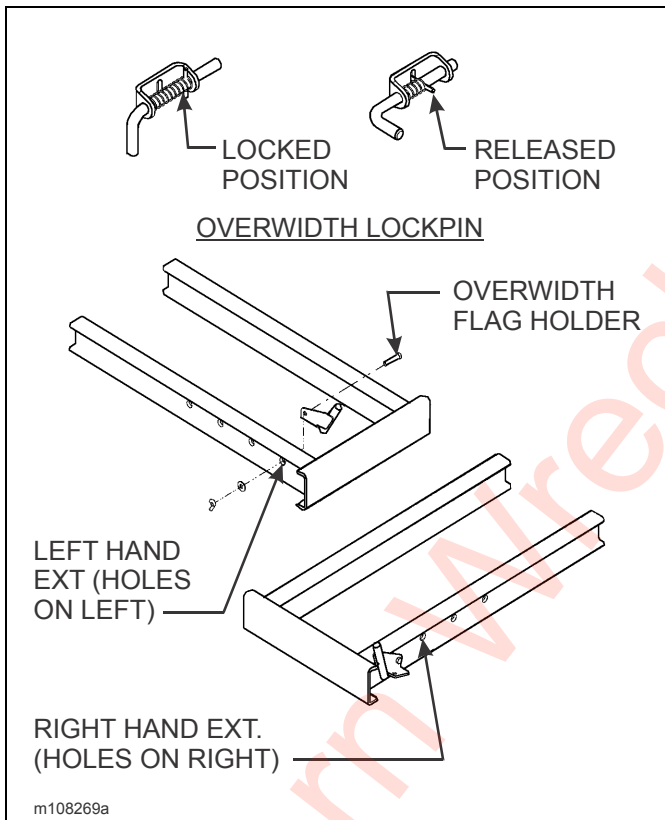

Figure 3-4: Pull Out Extensions
3. Additional blocking or planking may be used to support load wheels/tracks (See Figure 3-4.)